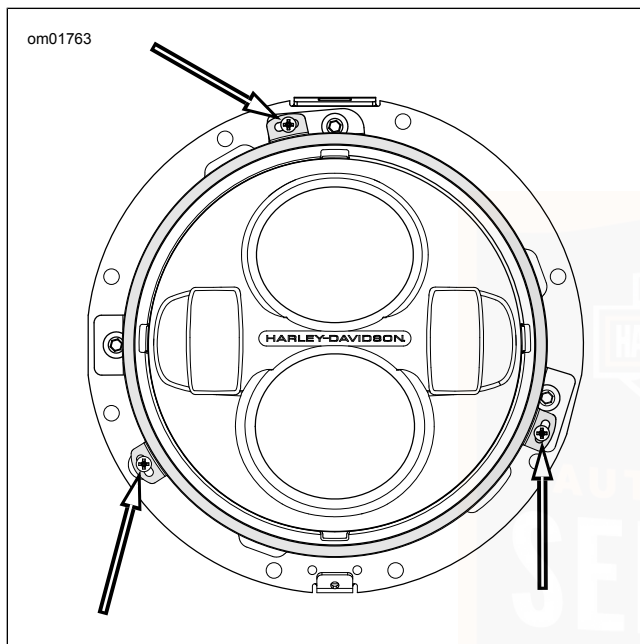

Figure 71. Headlamp Retaining Screws
3. See Figure 71. Remove screws securing retaining ring.